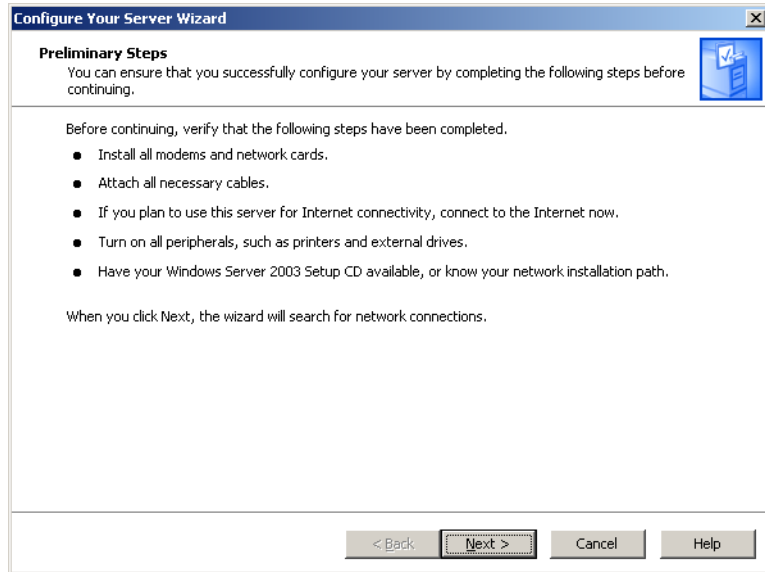

Figure D-2 Preliminary Steps
3. Review the **Preliminary Steps** shown in figure D-2 and then click the **Next** button to proceed once you have verified these steps have been completed.